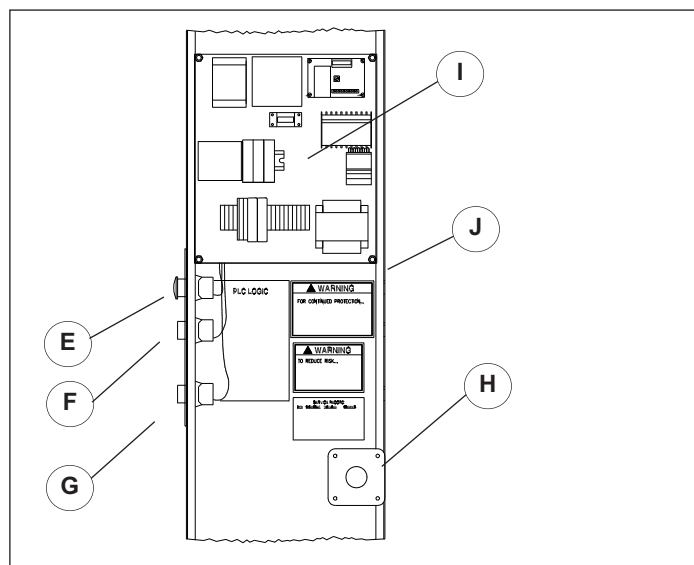

Figure 18.2
3. Cables (B) with connectors on one end are provided for the motor, brake, limit switches and photoeye's and will need to be terminated to the control panel. The cables will be enclosed in flexible liquid tight conduit. A conduit mounting bracket is provided in the sideframe, Figure 18.2.
6. Suggested fused disconnect box location (C) (supplied by others).
7. Incoming voltage (D) (see chart wiring schematics for acceptable voltages)